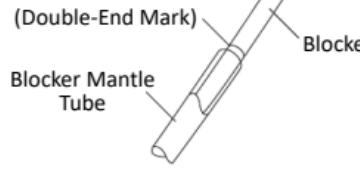

Fig.2
14. When pushing the blocker tip out of the endotracheal tube pocket, be sure to grip the blocker shaft near the blocker mantle tube (the area between the setting end mark and the first depth marking, as shown in Fig.2). Otherwise it may kink or break the blocker shaft.